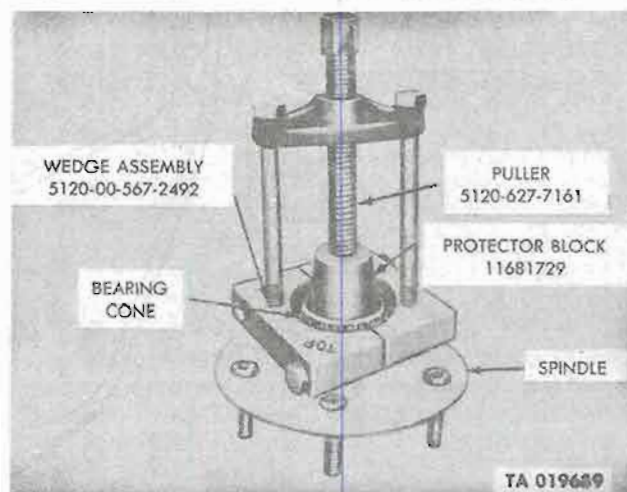

Figure 10-45. Removing outer wheel bearing.
q. Remove outer bearing cone from spindle using puller (5120-00-627-7161) with wedge assembly (5120-00-567-2492) and protector block (11681729) (fig. 10-45).
Page 10-15. Figure 10-45 is superseded as follows: